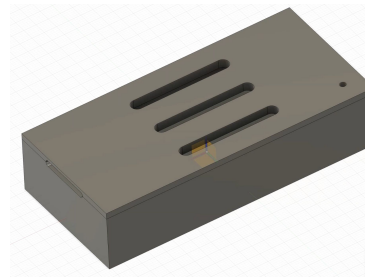

Figure 1.2
- Click the '**warning icon**' to refresh the model. The entire enclosure will automatically adjust to the new 5-inch dimension, including the box, lid, and mounting pads. This demonstrates how parametric references maintain design consistency (see Figure 1.2).